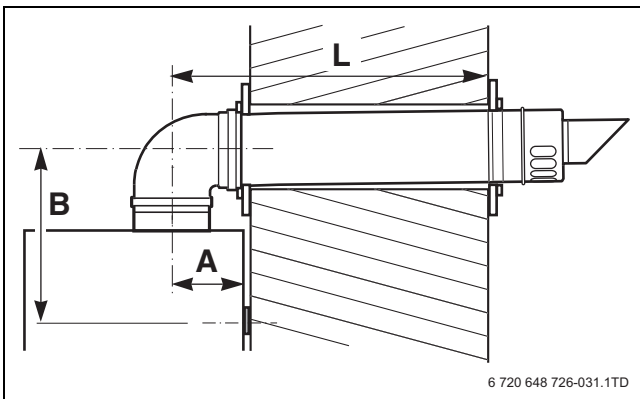

Fig. 33 Flue length - rear
- ▶ Measure the flue length L. Refer to figures 33 and 34.